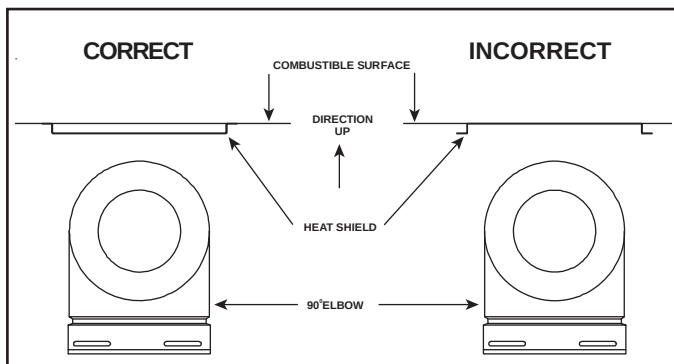

Figure 6.3
2. Fasten the shield in place using the four pilot holes. The shield should be oriented such that the 13 1/8 inch dimension (longest dimension) is running in the same direction the elbow is pointing. The shield should be centered directly above the elbow, and positioned so that it creates a 1/2 inch airspace between the shield and the combustable surface. See Figure 6.3.